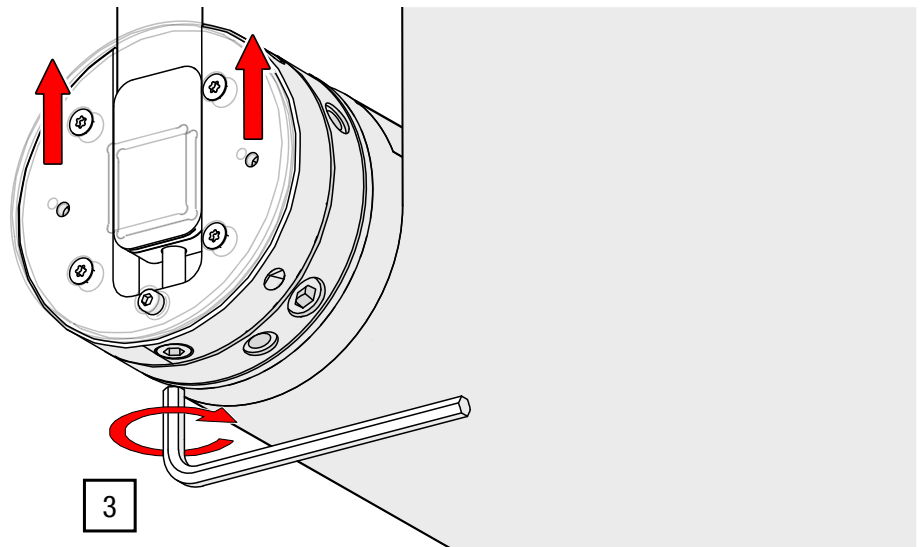

Fig. 35: Setting the levelling – Adjusting the winding shaft upwards
3. Turn the levelling screw clockwise using an Allen key AF 8 (see Fig. 35).